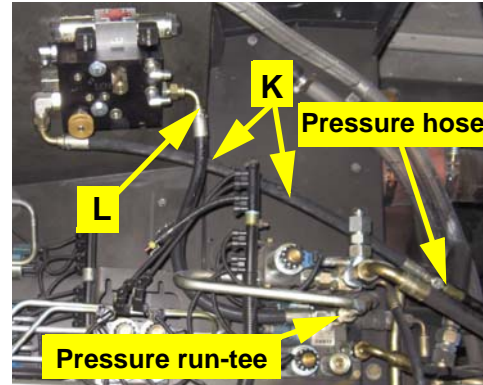

Figure 4b: Installed tank fitting
- d. Attach excess flow hose **L** to the turned run-tee and the **EF** port on the automated steering block (Figure 4b).